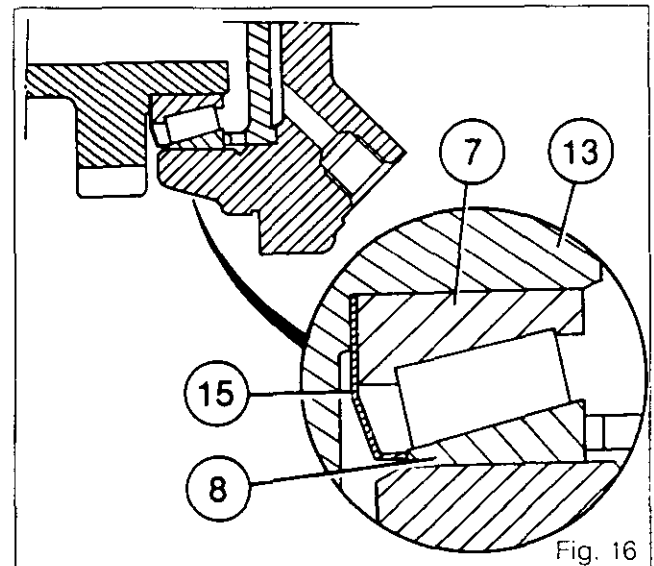

Fig. 16
**Note: To obtain correct lubrication of the friction ring (30), a deflector (15) (mounted between the pinion (13) and the bearing cone (7) in contact with the cup (8) (Fig. 16)) has been introduced on 3000 tractors from serial number N120009 onwards.**